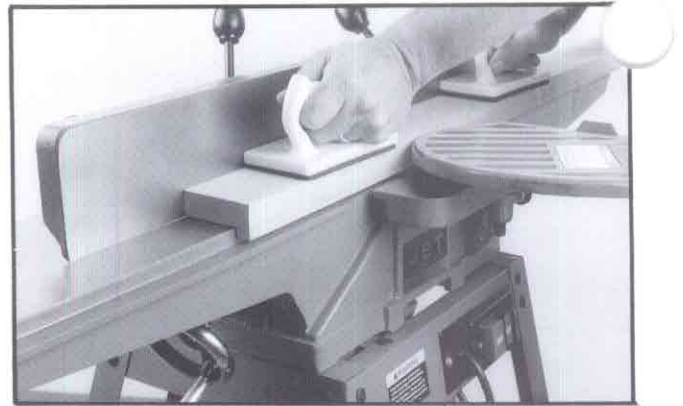

Fig. 29
2. Lower the infeed table an amount equal to the depth of the rabbet. If the rabbet is more than 1/8", it may be necessary to cut in two or more passes. (Fig. 29)